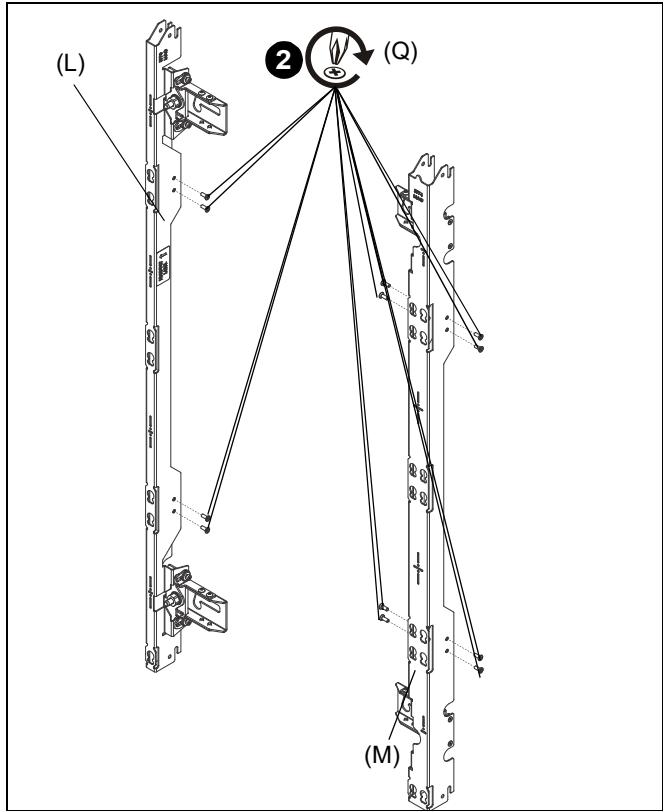

Figure 3
2. Loosely install #10-24 x 1/2" Phillips undercut machine screws (Q) into uprights (L, M or N) that will be attached to spacer plate (P). (See Figure 3)